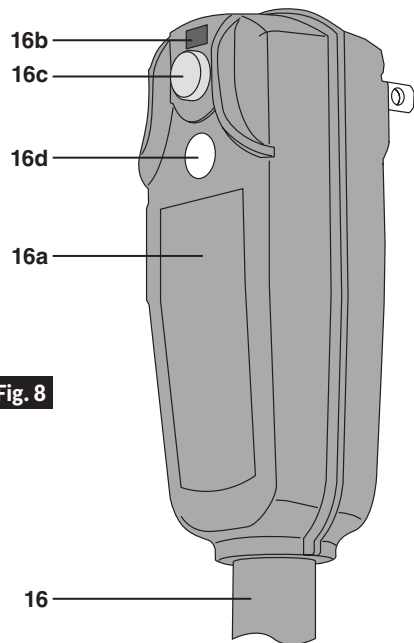

Fig. 8
1. Plug GFCI unit **16a** into power outlet. You should see Red through indicator window **16b** (Fig. 8).
2. Press 'TEST' button **16d**. Red should disappear from the indicator window (Fig. 8).
3. Press and release 'RESET' button **16c**. Red should reappear in the indicator window (Fig. 8).